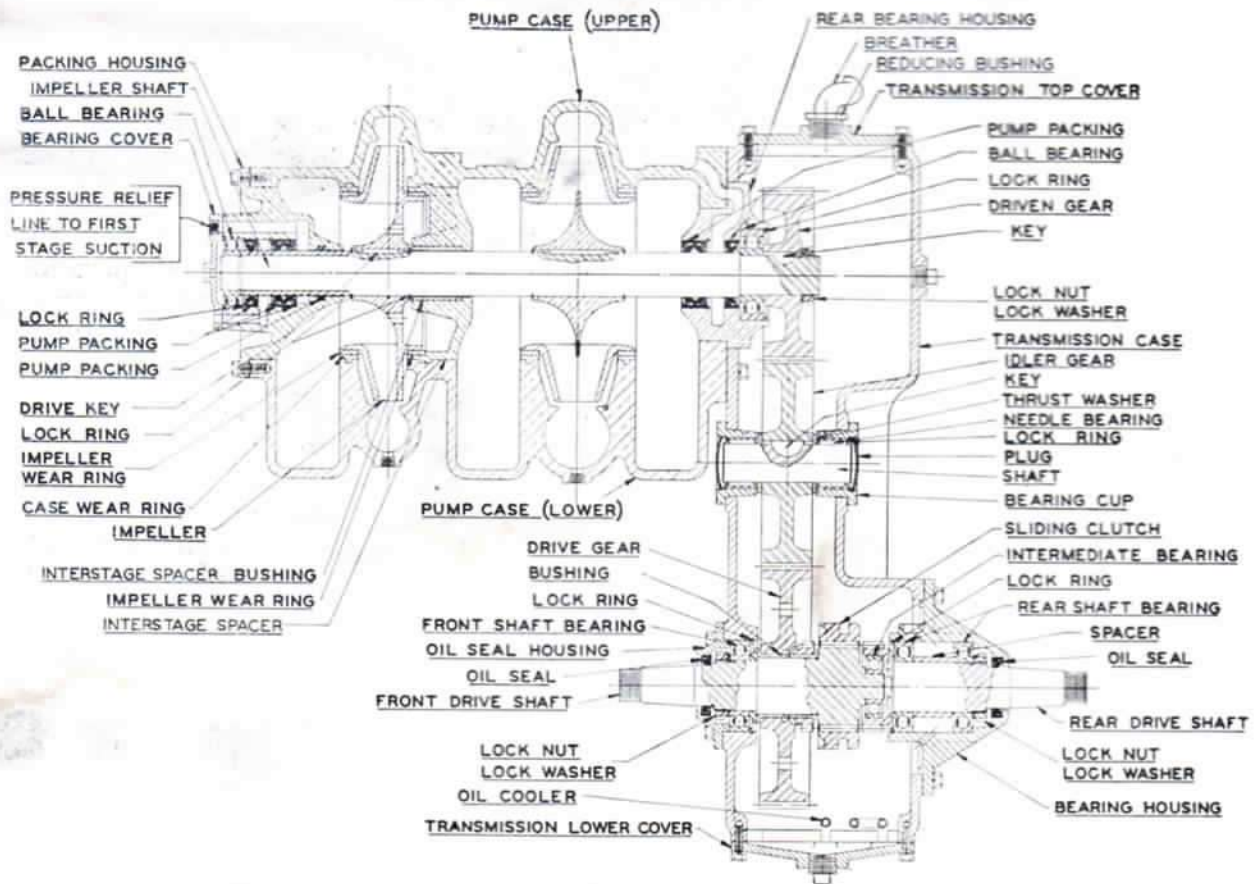

FIG. 3
1. The pump is a two stage parallel series centrifugal with volute type discharges. The drive shaft is supported by heavy duty ball bearings. See Fig. 3. The two impellers are mounted on the shaft between the bearings, separated by an interstage spacer. The impellers are keyed to the shaft and are located endwise by stainless steel snap rings. The impellers, interstage spacer and pump case are fitted with wear rings so no machining is necessary to compensate for wear.
The impeller shaft is driven thru a gear train. See Fig. 3 and 4. The drive gear and clutch are mounted in the chassis drive shaft. The clutch is a single ring, positive engagement type. One movement of the clutch disengages the rear axle and engages the pump. Axle and pump cannot be engaged at the same time.
To remove the impeller shaft assembly, first loosen screws attaching the transmission top cover. See Fig. 3. Release the lock and remove the hex nut from the impeller shaft, slide impeller gear off shaft. Remove screws attaching front and rear bearing housings to pump body and slide housing off end of shaft. Use puller if necessary, holes are provided in gear and housing. Remove screws from the top pump cover and lift off cover. The impeller shaft assembly is now free to be removed.